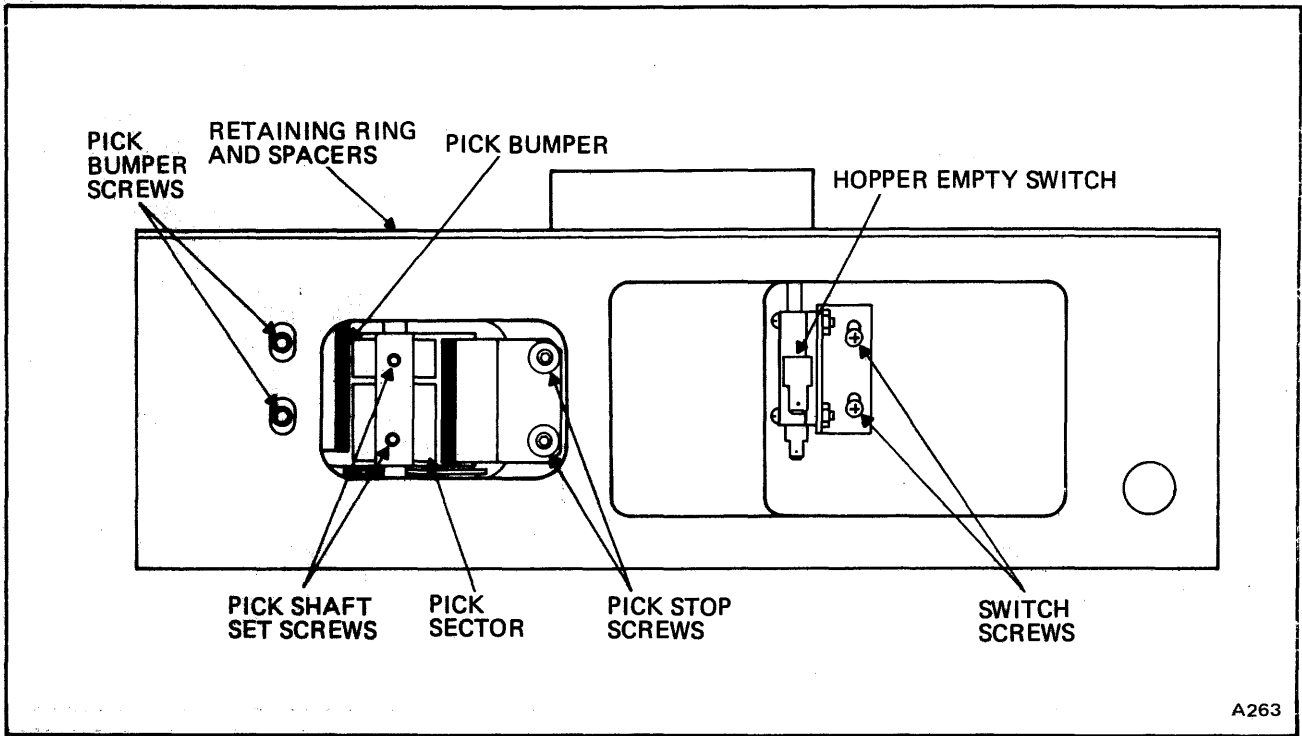

Figure 6-12. Pick Sector Adjustment, Front View
- b. If height of picker sector requires adjustment, loosen set screws in back of picker sector, Figure 6-12.
- j. Loosen two picker stop screws, Figure 6-12.
w. To adjust for proper sector over-travel, loosen two picker bumper screws, Figure 6-12.